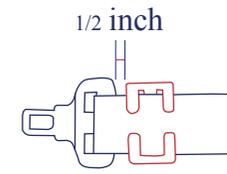

Fig. 46-1
- Secure the shoulder belt to the lap belt by installing the locking clip 1/2 inch from the buckle as shown in figure 46-1.